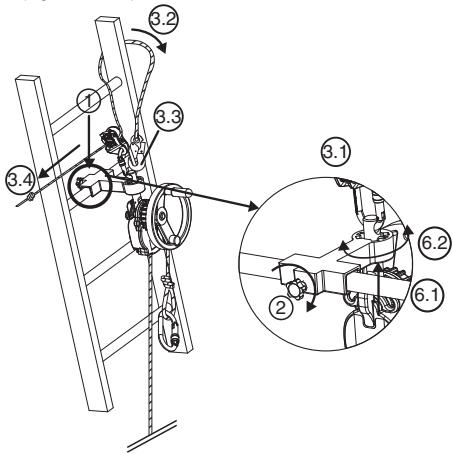

Fig.7
(Fig.7, 6.1 – 6.2).
### 6.3.3 DEROPE™ UP K descender (Fig. 7)
1. Place the small support bracket on the ladder bar in the position required to carry out the rescue operation above the person to be evacuated (Fig.7, 1).
2. Tighten the locking pin located at the back of the support bracket using the clamping knob (Fig.7, 2).
- Secure the connector of the adjustment device LCM 05 in the hole at the top of the fastening pin (Fig.7, 3.1).
- Run the belay lanyard around the ladder bar located above the bracket, going around one of the ladder uprights (Fig.7, 3.2).
- Connect the belay lanyard connector in the connector of the adjustment device LCM 05 (Fig.7, 3.3).
- Tension the belay lanyard by pulling on the free strand (Fig.7, 3.4).